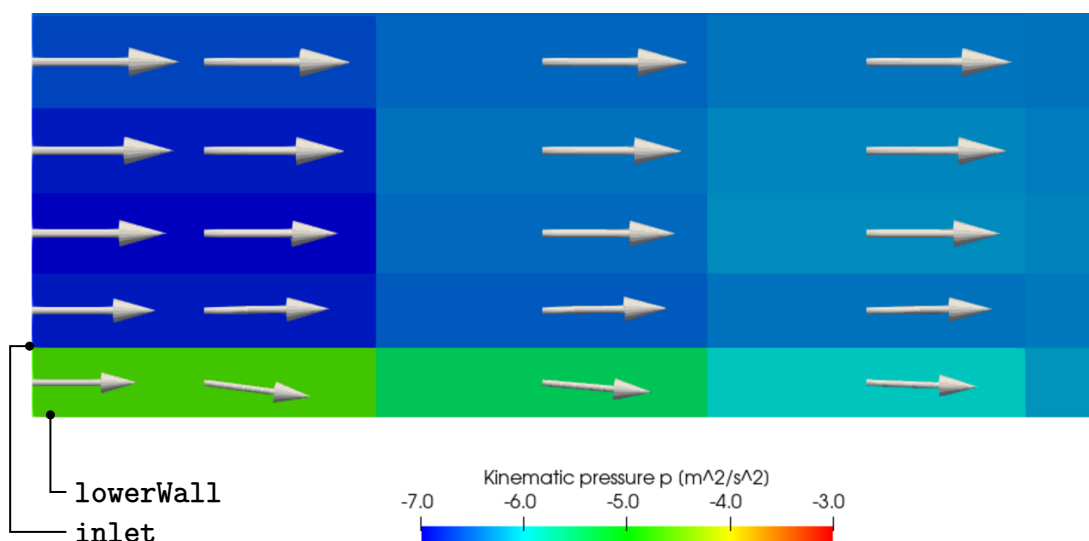

Figure 2.11: Turbulent boundary layer at the inlet in the backward facing step.
The change in output times may create confusion for ParaView, causing it to query times in the time selector with (?) symbols. The selector entries can be rebuilt by reverting to time 0 or clicking Refresh Times. The user can then select the last time in the sequence (279). The velocity profile and pressure are updated as shown in Figure 2.11.